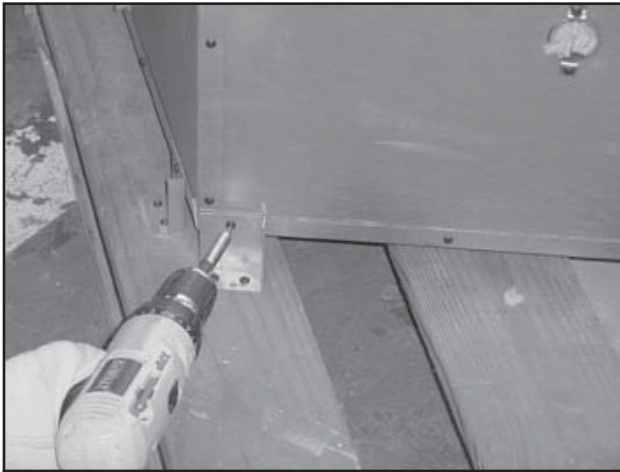

Figure 4.11 Removing Shipping Brackets
- Remove fireplace from pallet. The fireplace is attached to pallet with two brackets on each side and rear of outer shell. See Figure 4.11. Remove screws from bracket, pallet and fireplace. Replace screws removed from fireplace. Slide fireplace into position (brackets can be used to anchor fireplace in position). Once fireplace has been put into position, install refractories.